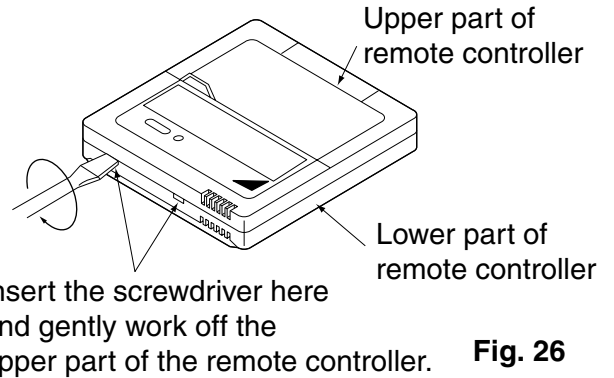

Fig. 26
(1) Insert a ⊖ screwdriver into the recess between the upper and lower part of remote controller and, working from the 2 positions, pry off the upper part. The remote controller PC board is attached to the upper part of the remote controller. **(Refer to Fig. 26)**